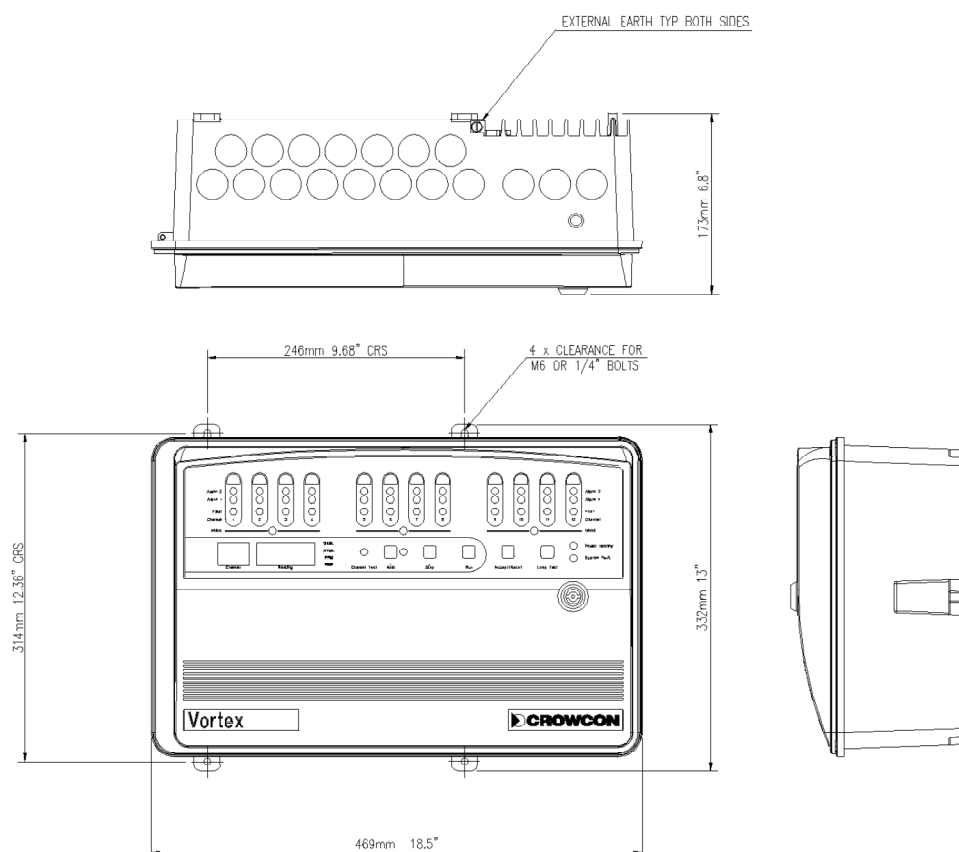

Figure 2: Vortex system in Standard Enclosure
3. Place the enclosure or cabinet in its working position. Consider issues of location, cabling, and earthing discussed in sections 3.6 and 5.2 and Appendix F. The standard enclosure is supported on screws through the two top lugs, and held against the wall with the two bottom lugs. (see Figure 2)